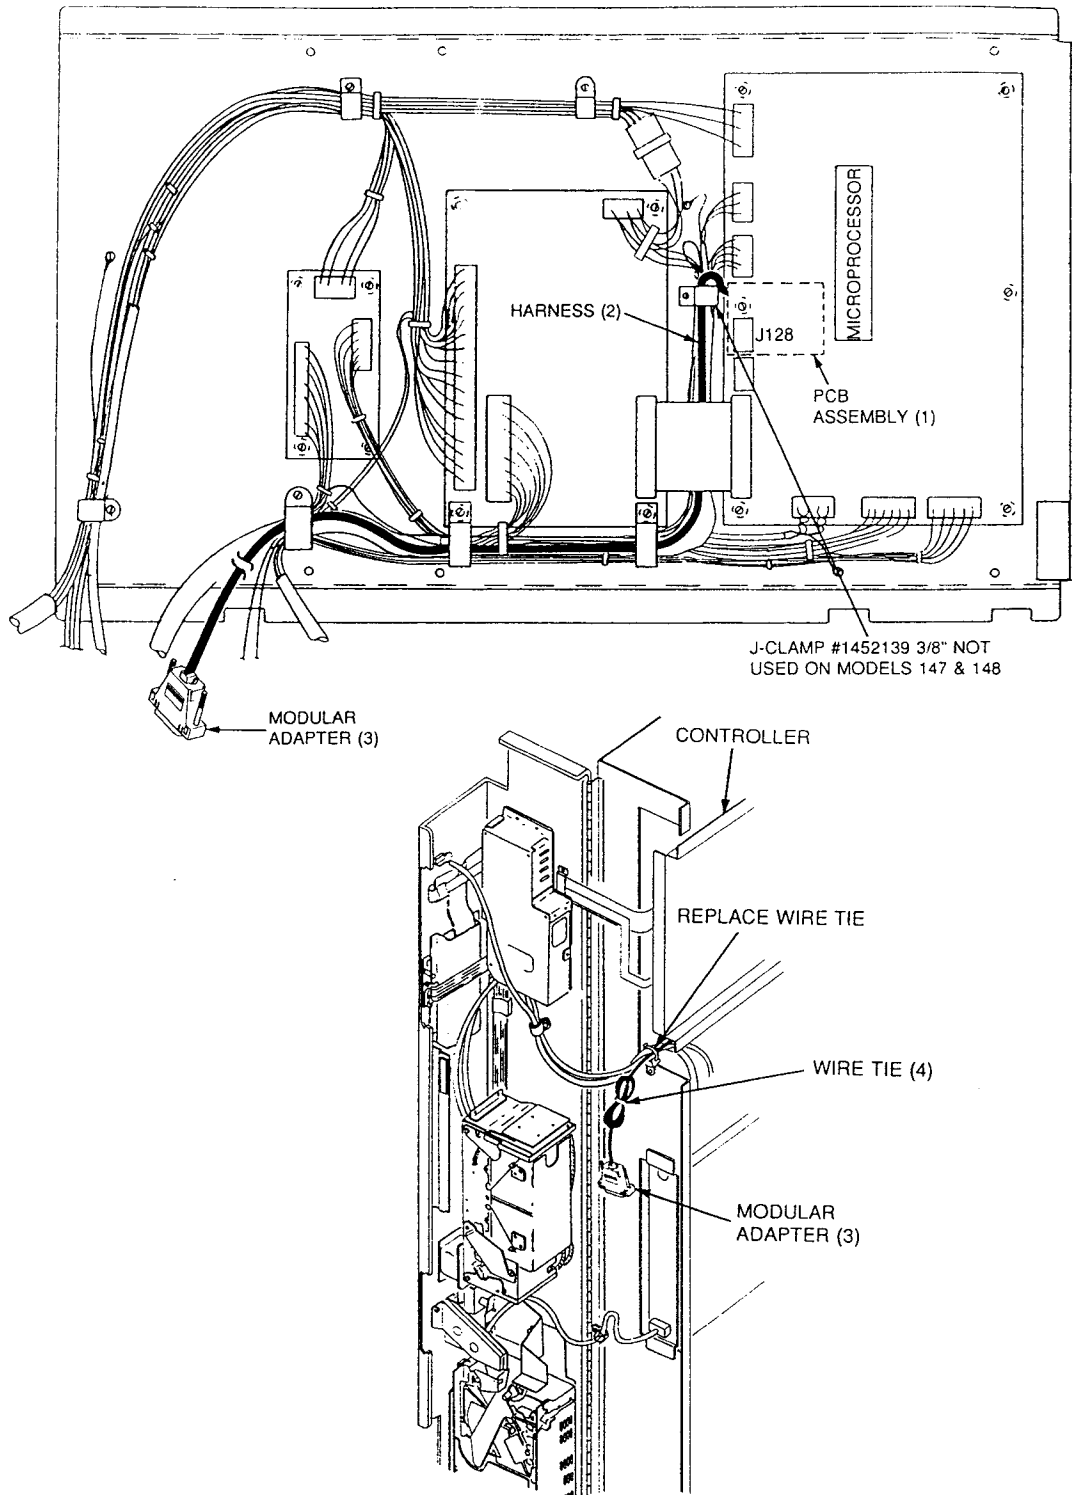

Figure 2
6. Route the harness (2) from the controller as shown (figure 2, 3, or 4).
8. Connect the modular adapter (3) to the end of the harness.